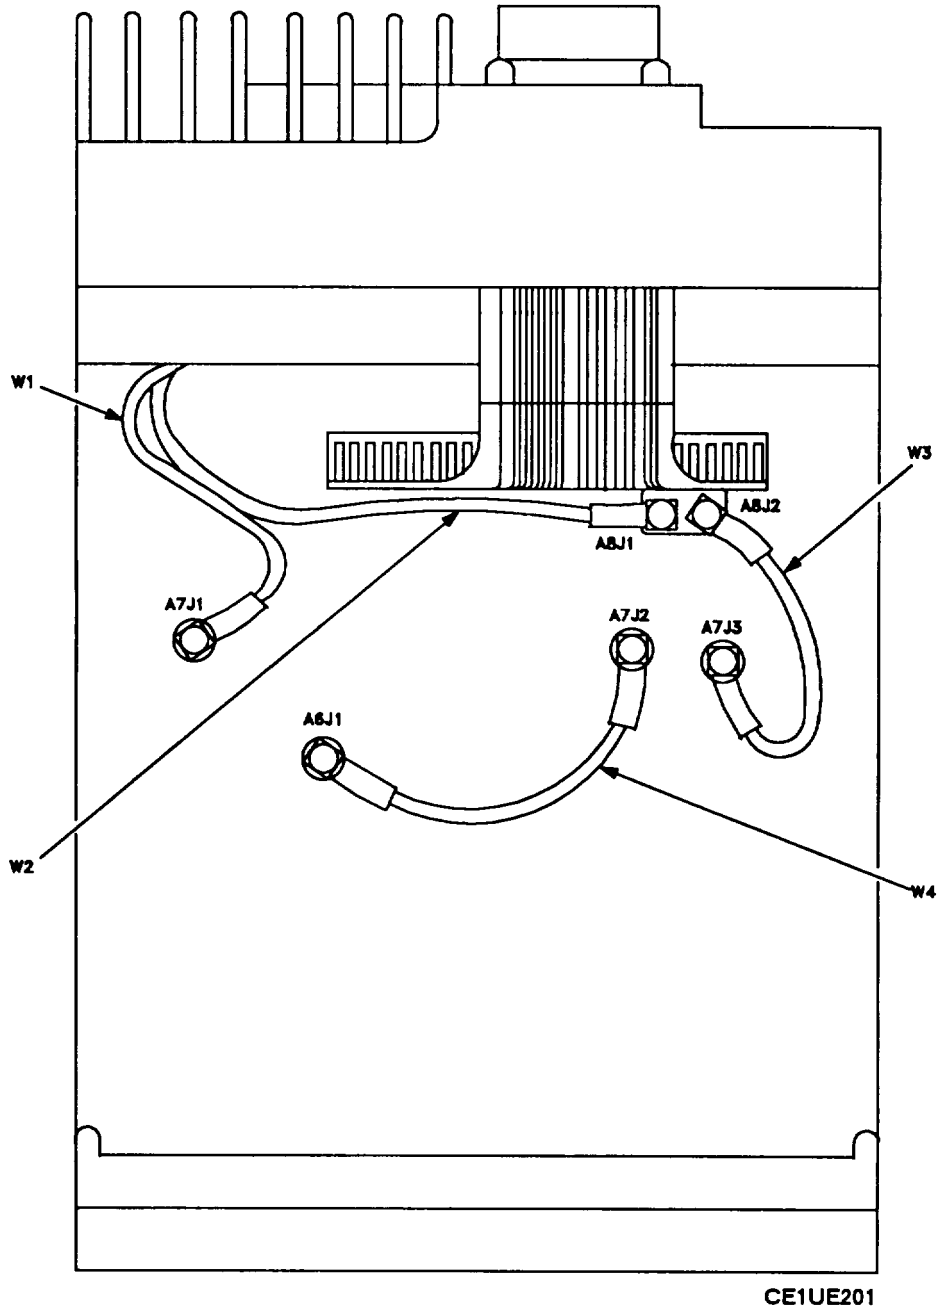

Figure 2-13. Rf Cable Locations
Figure 2-13 shows location of rf cables.
| <ol style="list-style-type: none"> 1. IF/DEMODULATOR MODULE (A6) <ol style="list-style-type: none"> a. Remove top cover (para 2-29). b. Remove power supply (para 2-30). c. Use needle nose pliers to disconnect rf cable (W4) from IF/demodulator (see figure 2-13). d. Hook module extractor to IF/demodulator and pull free of it. | <ol style="list-style-type: none"> 2. TUNER/MIXER MODULE (A7) <ol style="list-style-type: none"> a. Remove top cover (para 2-29). b. Remove power supply (para 2-30). c. Use needle nose pliers to disconnect rf cables (W1, W3, and W4) from tuner/mixer (see figure 2-13). d. Hook module extractor to tuner/mixer and pull free of it. |
| <ol style="list-style-type: none"> 1. IF/DEMODULATOR MODULE (A6) <div style="text-align: center; margin: 10px 0;">CAUTION</div> <p>Be careful not to damage or bend connector pins.</p> <ol style="list-style-type: none"> a. Insert IF/demodulator in slide guides. Check alignment of connector. Press down firmly to fully seat. b. Connect rf cable (W4) to IF/demodulator (see figure 2-13). c. Install power supply (para 2-30). d. Install top cover (para 2-29). | <ol style="list-style-type: none"> 2. TUNER/MIXER MODULE (A7) <div style="text-align: center; margin: 10px 0;">CAUTION</div> <p>Be careful not to damage or bend connector pins.</p> <ol style="list-style-type: none"> a. Insert tuner/mixer in slide guides. Check alignment of connector. Press down firmly to fully seat module. b. Connect rf cables (W1, W3, and W4) to tuner/mixer (see figure 2-13). c. Install power supply (para 2-30). d. Install top cover (para 2-29). |
3. Use needle nose pliers to disconnect rf cables (W2 and W3) from synthesizer (see figure 2-13).
2. Connect rf cables (W2 and W3) to synthesizer (see figure 2-13).
3. Use needle nose pliers to disconnect rf cables (W1 and W2) from tuner/mixer and synthesizer (see figure 2-13).
4. Disconnect flex cable (1) from rt.
5. Remove eight screws (2).
6. Pull amplifier-oscillator away from rt to disconnect connector (3).
3. Connect flex cable (1) to rt.
4. Connect rf cables (W1 and W2) to tuner/mixer and synthesizer (see figure 2-13).